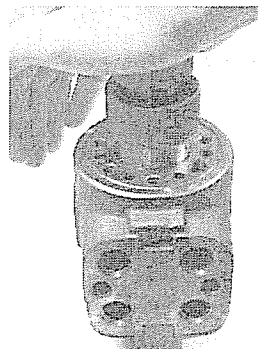

Figure 19
- 12. Push plunger into sleeve until it bottoms out, rotate 1/4 turn (figure 19).